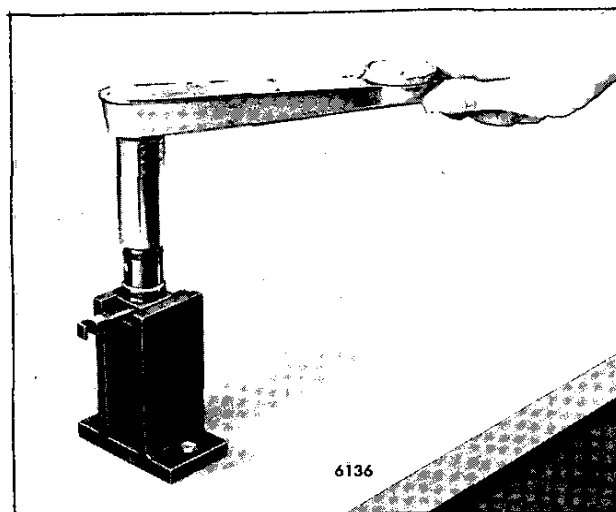

Fig. 17 - Tightening Injector Nut with Nut Wrench J 29137 and fixture J 29136
8. Use injector nut wrench J 29137 and a torque wrench (Fig. 17) to tighten the injector nut to 95-108 Nm (70-80 lb-ft) torque.